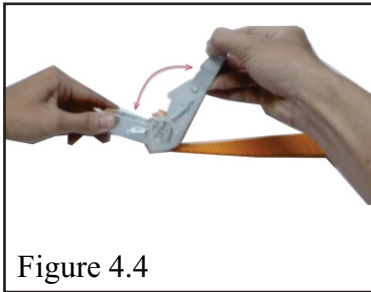
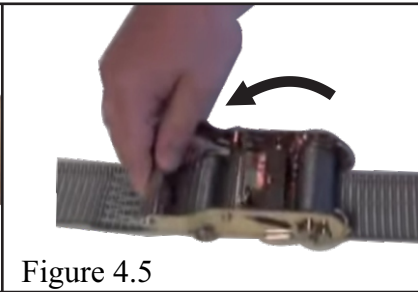

Figure 4.4
Figure 4.5
- Flip the ratchet up and down to tighten the strap (Figure 4.4). Once tightened, fold the ratchet down to lock and keep it during the operation. (Figure 4.5).